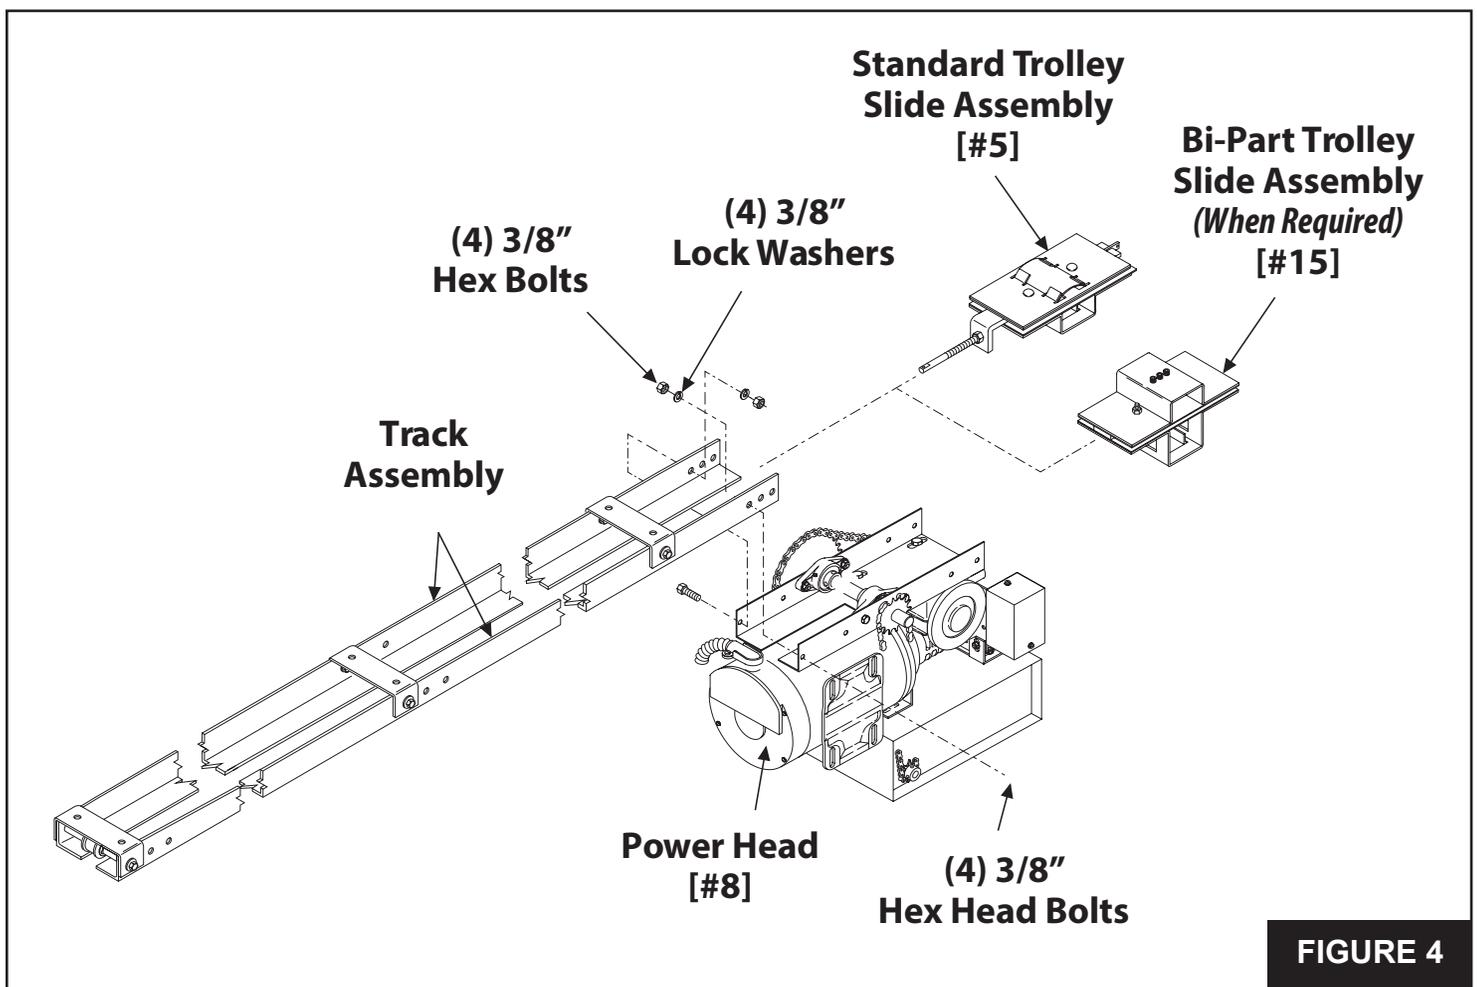

FIGURE 4
1. Install Trolley Slide Assembly on Track Assembly with Chain Take-up Bolt [#7] pointing away from end of track where Power Head [#8] will be mounted as shown in **Figure 4**.
2. Mount Power Head to Track Assembly using four 3/8 x 3/4 Long Hex Head Bolts, four 3/8 Lock Washers and four 3/8 Hex Nuts, as shown in **Figure 4**.